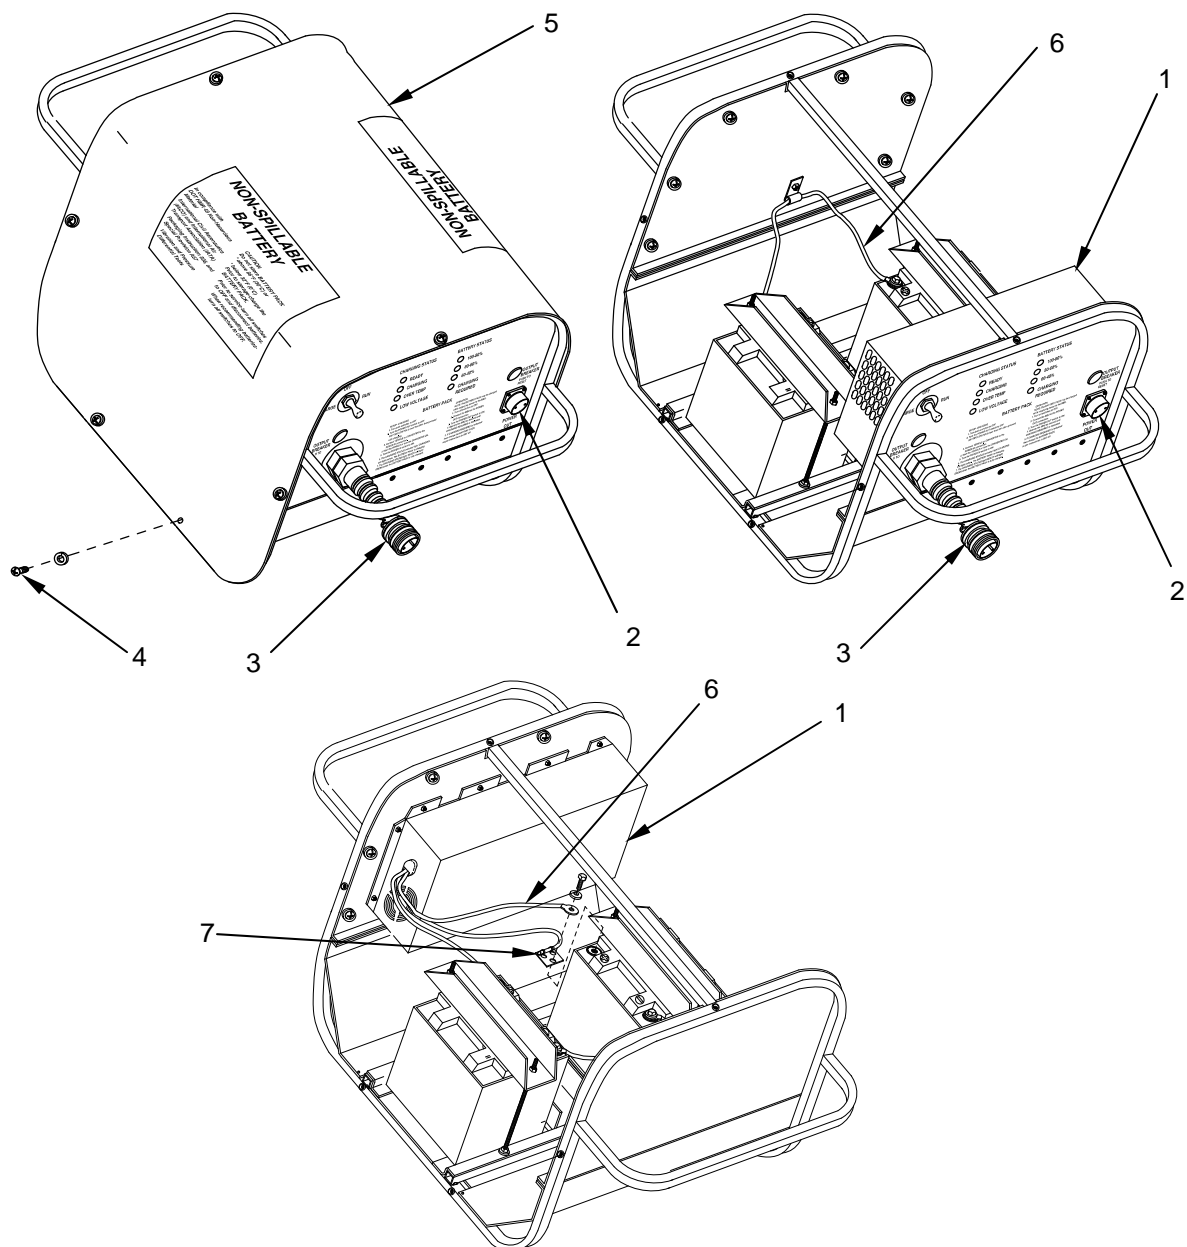

Figure 3. Inspect the Battery Charger.
1. Inspect the front panel of the battery charger (Figure 3, Item 1).
2. Check the condition of the power out connector (Figure 3, Item 2) for dents or other damage that would prevent the proper connection of a cable connector.
3. Check the condition of the power in cable (Figure 3, Item 3) for cuts or other damage that expose the wiring.
4. Remove the screws (Figure 3, Item 4) retaining the battery pack cover (Figure 3, Item 5), and remove the cover. Retain the screws for reassembly.
5. Inspect the battery charger (Figure 3, Item 1) for indications of physical damage, such as dents, corrosion, or burnt components.
6. Inspect the battery charger wires (Figure 3, Item 6) for damage such as chafed or burnt insulation, loose or corroded connections, or exposed wiring.
7. Inspect the temperature sensor (Figure 3, Item 7) for damage such as chafed or burnt insulation, loose or corroded connections, or exposed wiring.
8. If there are no indications of any faults with the battery charger (Figure 3, Item 1), install battery pack cover (Figure 3, Item 5) and retain with screws (Figure 3, Item 4).